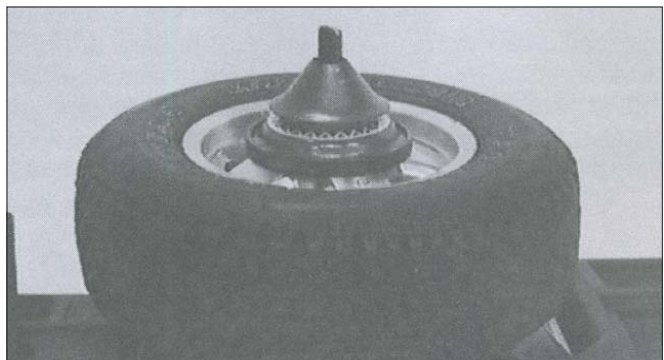

Figure 21 - Optional Speed Mag Adapter
**5.** On wheels with thin or delicate center holes that may be damaged by the centering cone, use the optional Speed Mag or Custom Wheeler Adapter (figure 21).